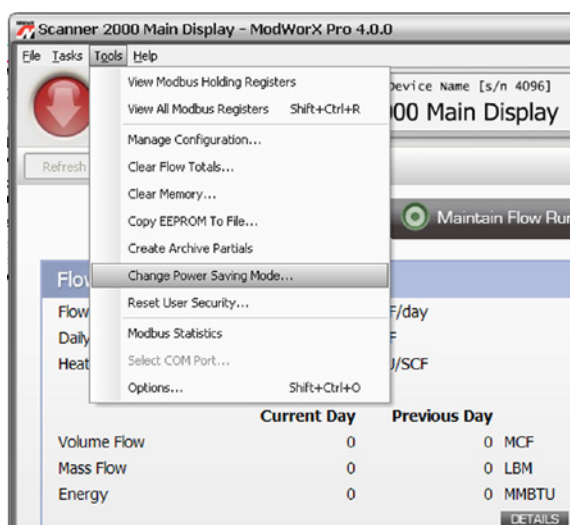

Figure A.11
1. Click **Tools>Change Power Saving Mode** in the task bar (Figure A.11).